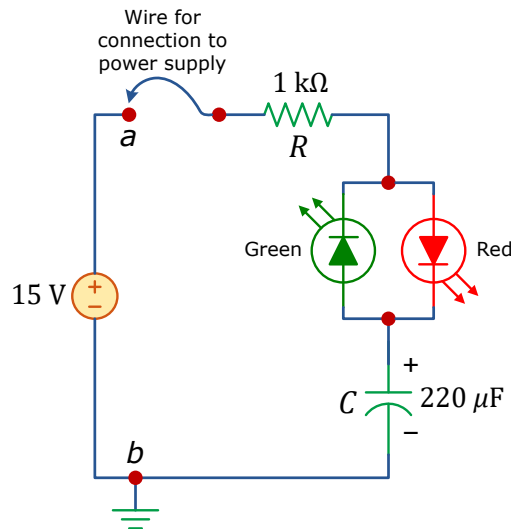

Figure 5.3: RC circuit with LEDs to observe the direction of current during a transient stage.
- 1 Build the RC circuit shown in Figure 5.3 on your breadboard, making sure to connect the **negative lead** of the $220\ \mu\text{F}$ capacitor to the **common ground** (terminal b in Figure 5.3). The LEDs are used to indicate the presence of current and its direction as they light up when current flows through either of them.
Find the time constant for this circuit and compare it with the approximate time constant of the previous circuit in Figure 5.3.